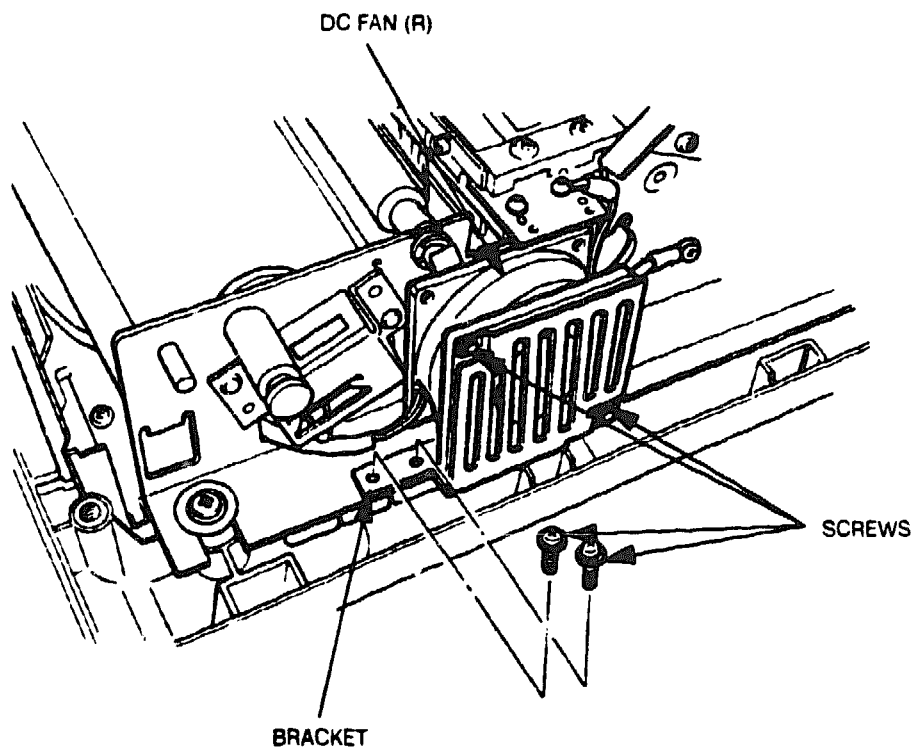

Figure 6-27 DC Fan (R) Removal
5. Remove the two fan bracket screws shown in Figure 6-27 and lift the bracket up and away from the frame.
6. Remove the two DC fan screws from the fan bracket (see Figure 6-27). Remove the DC fan from the bracket.